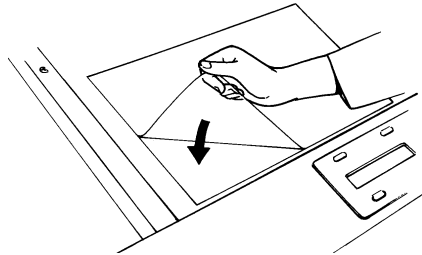

Figure 2-26
3. When your adhesion sheets are not going to be used for an extended period of time, the top sheet should be turned over so that only the backing paper is exposed to the air (When your adhesion sheets are not going to be used for an extended period of time, the top sheet should be turned over so that only the backing paper is exposed to the air (as shown in Figure 2-26); otherwise the level of tackiness will be lowered with the accumulation of dust. Take care to protect the tackiness of your adhesion sheets by not allowing foreign materials to become attached to them. Also, attach the dust cover to prevent soiling from dust.